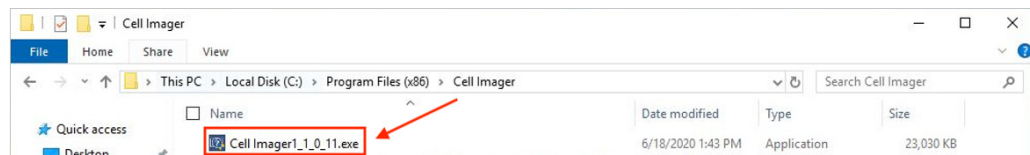

Figure 25. The installer file (**Cell Imager1_1_0_17.exe**) location.
- 12 Run the installer file (**Cell Imager1_1_0_17.exe**) shown in **Figure 25**.